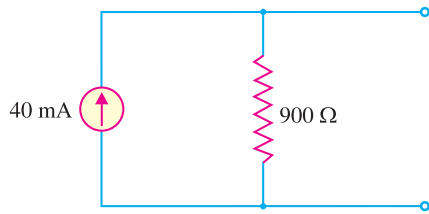

Fig. 1.48
- Convert the current source in Fig. 1.48 into the equivalent voltage source.